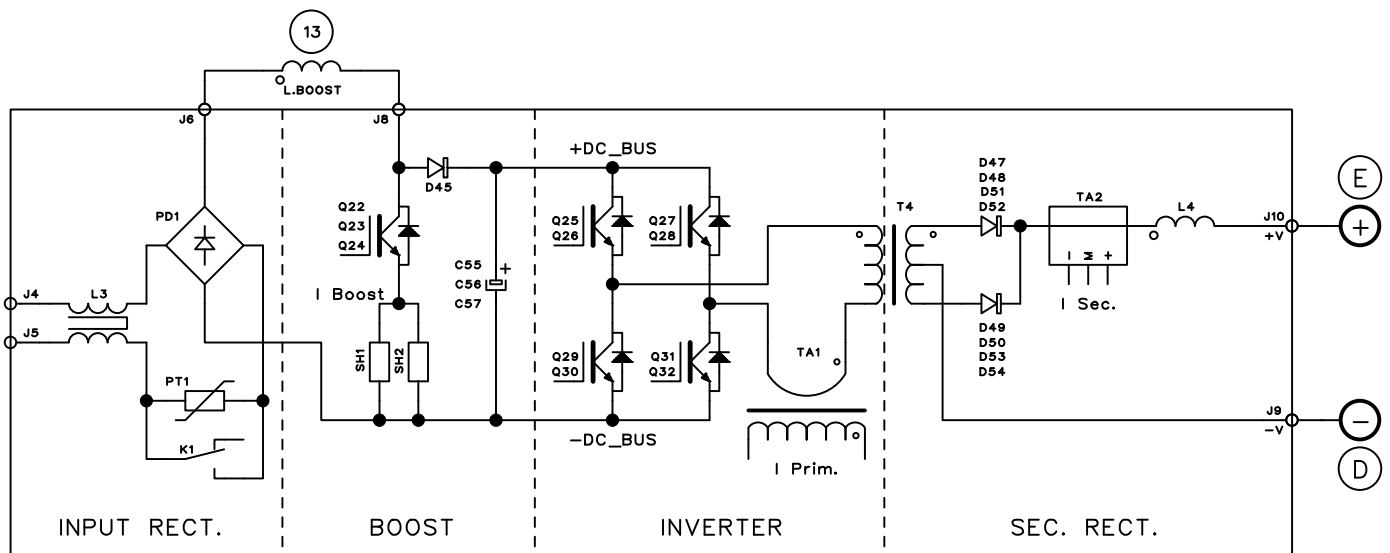

Fig. 2.3.1
More precisely in the power board (15) they can be identified (Fig. 2.3.1):
- the igt inverter, that generates the square wave alternated voltage for the T4 transformer, installed on the power board (15);